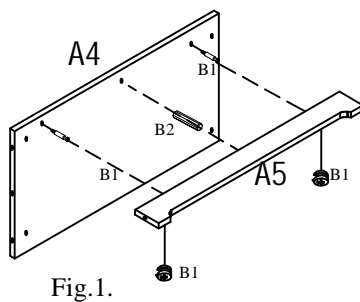

Fig.1.
Step 2: Assemble Apron A5 to Bottom Panel A4 using Cam-locks B1 and Wood Dowel B2, refer to Fig.1.